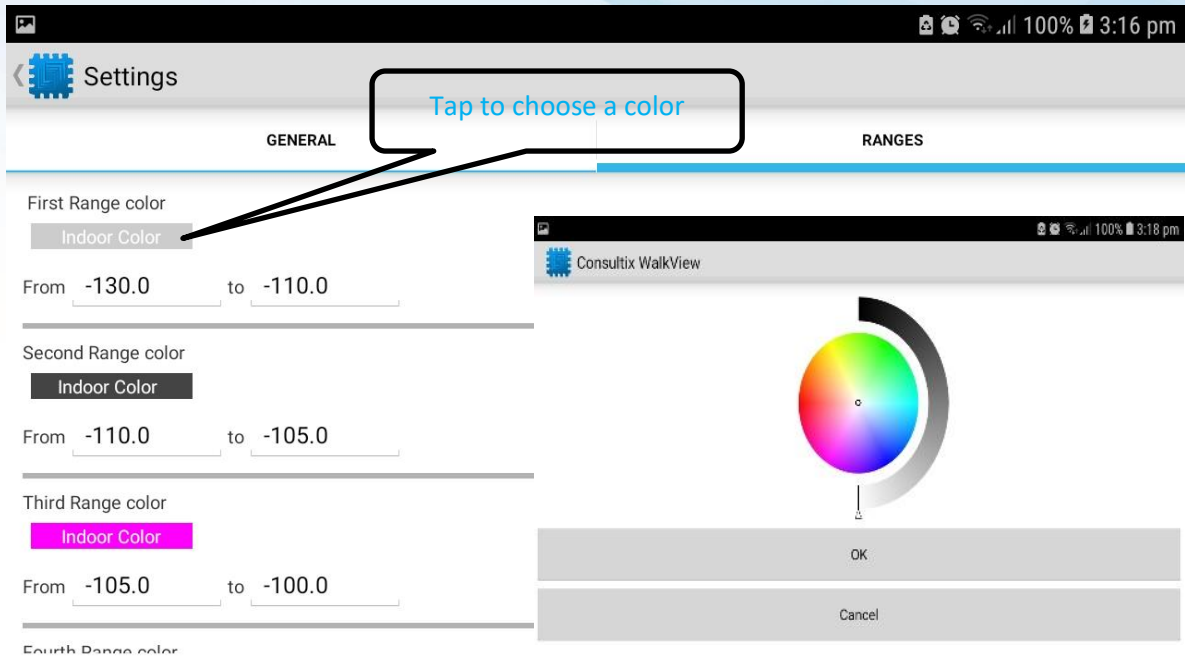

Figure 6: WalkView Power Ranges
4. Tap the colored box to pick a color then tap **OK** as depicted in Figure 6 below,